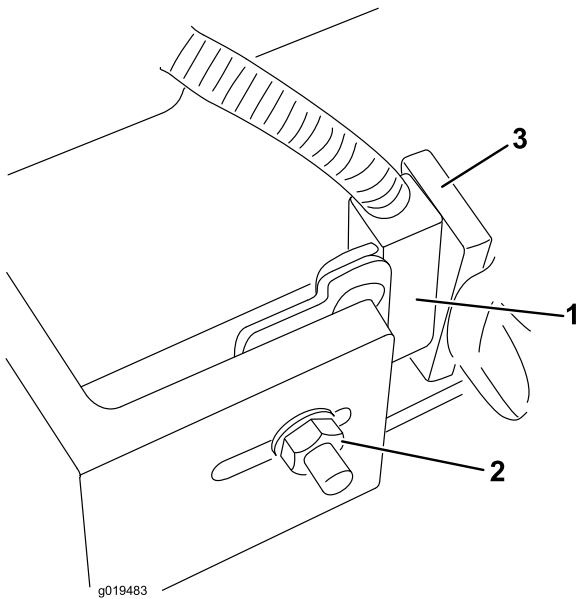

Figure 80
2. Loosen the carriage bolt nut securing the lift arm switch bracket to the #4, 6, or 7 lift arms (Figure 80).